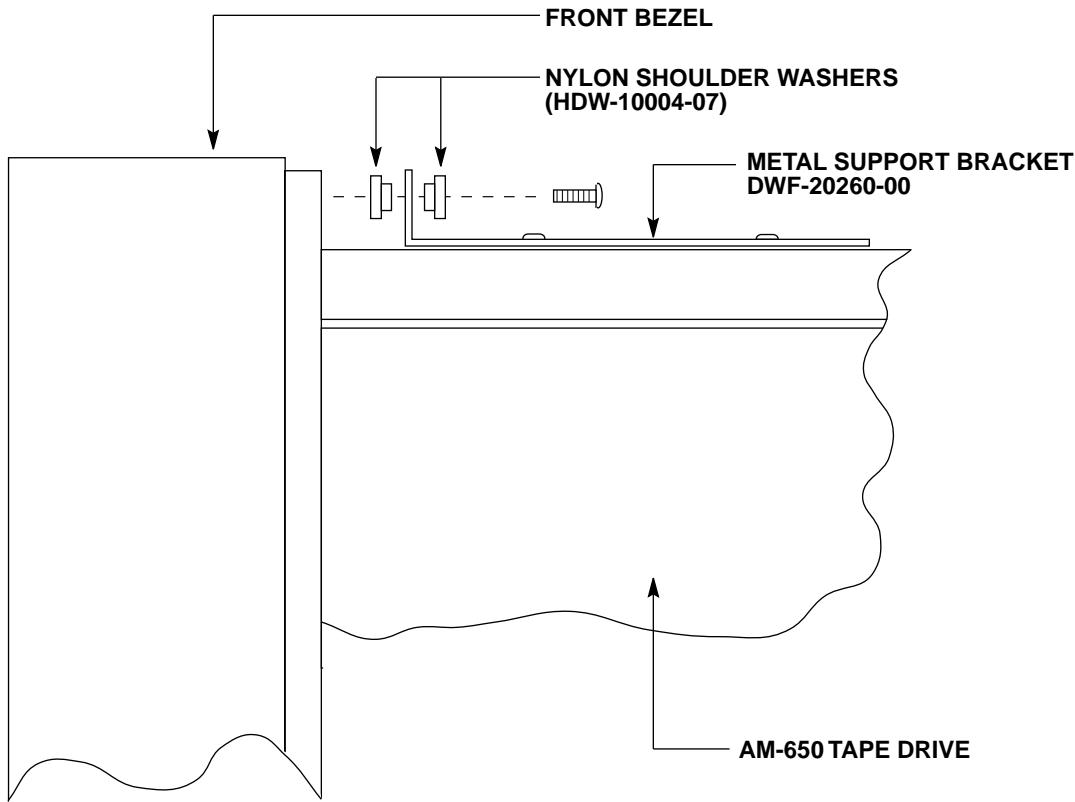

Figure 6 - Attaching to Front Bezel
| Figure 6 - Attaching to Front Bezel | 11 |
6. Because the tape drive internally ties logic ground to its frame, you need to isolate the tape drive from the computer chassis. Use the two nylon shoulder washers (part number HDW-10004-07) to ensure that the metal support bracket does not touch the conductive coating on the front bezel. Please refer to Figure 6 for correct installation of the shoulder washers.